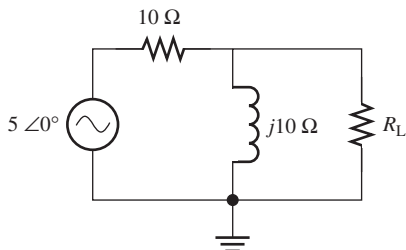

FIGURE P6.45 Circuit for Problem 6.45.
- 6.45 (A) Find the Thévenin and Norton equivalent circuits for the circuit shown in Figure P6.45, as seen by the load resistor, R_L .
- 6.75** (A) Replace the sinusoidal voltage source to the sinusoidal current that is $i_S(t) = 5 \cos(100t)$ in Figure P6.45, use PSpice to plot the Norton equivalent current flows through R_L .